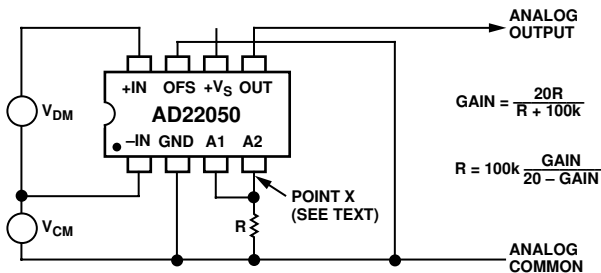

Figure 4. Achieving Gains Less Than  $\times 20$
**Decreasing the Gain.** See Figure 4. Since the output of the preamplifier has an output resistance of  $100 \text{ k}\Omega$ , an external resistor connected from Pin 4 to ground will precisely lower the gain by a factor  $R/(100\text{k}+R)$ . When configuring the AD22050 for any gain, the maximum input and the power supply being used should be considered, since either the preamplifier or the output buffer will reach its full-scale output (approximately  $V_S - 0.2 \text{ V}$ ) with large differential input voltages. The input of the AD22050 is limited to no greater than  $(V - 0.2)/10$ , for overall gains less than 10, since the preamplifier, with its fixed gain of  $\times 10$ , reaches its full scale output before the output buffer. For  $V_S = 5 \text{ V}$  this is  $0.48 \text{ V}$ . For gains greater than 10, however, the swing at the buffer output reaches its full-scale first and limits the AD22050 input to  $(V_S - 0.2)/G$ , where  $G$  is the overall gain. Increasing the power supply voltage increases the allowable maximum input. For  $V_S = 5 \text{ V}$  and a nominal gain of 20, the maximum input is  $240 \text{ mV}$ .
The overall bandwidth is unaffected by changes in gain using this method, although there may be a small offset voltage due to the imbalance in source resistances at the input to A2. In many cases this can be ignored but, if desired, can be nulled by inserting a resistor in series with Pin 4 (at “Point X” in Figure 4) of value  $100 \text{ k}\Omega$  minus the parallel sum of  $R$  and  $100 \text{ k}\Omega$ . For example, with  $R = 100 \text{ k}\Omega$  (giving a total gain of  $\times 10$ ), the optional offset nulling resistor is  $50 \text{ k}\Omega$ .